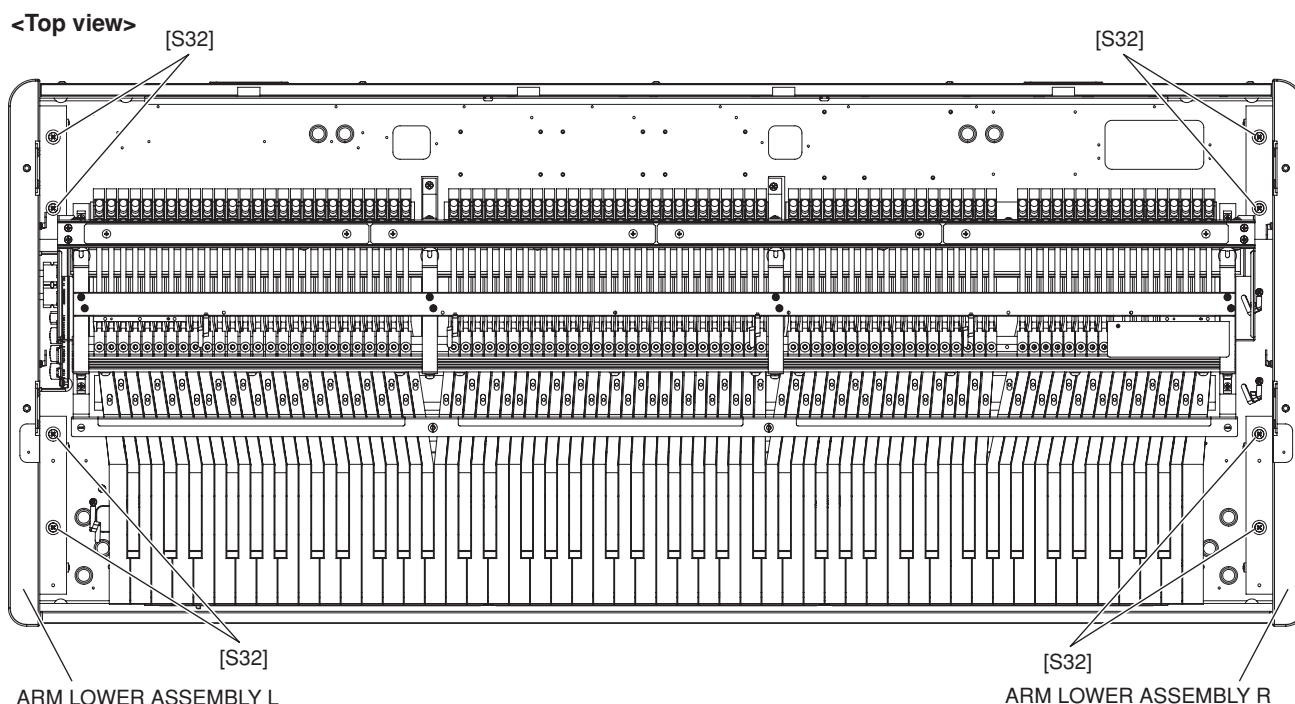

Fig. 1
- 8) Remove the four (4) screws marked [S32], replace the arm lower assembly L, and attach the connector assembly. (Fig. 1)